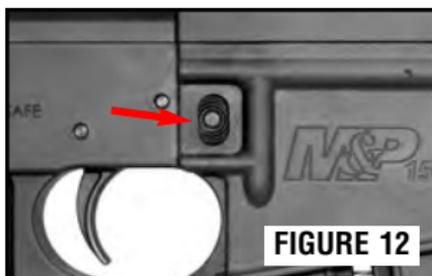

FIGURE 12
- Press the magazine release and remove the magazine from the firearm (Figure 12).